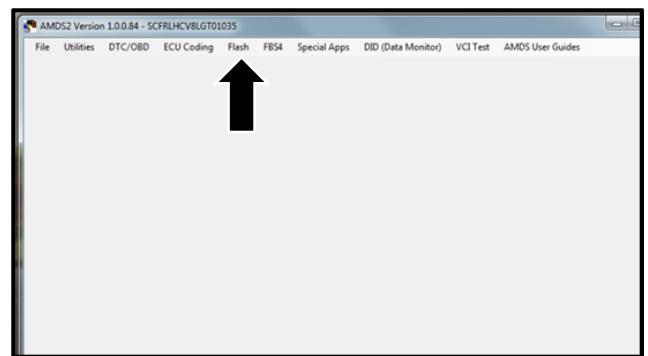

Figure 5
10. Select "Flash" (refer to Figure 5).